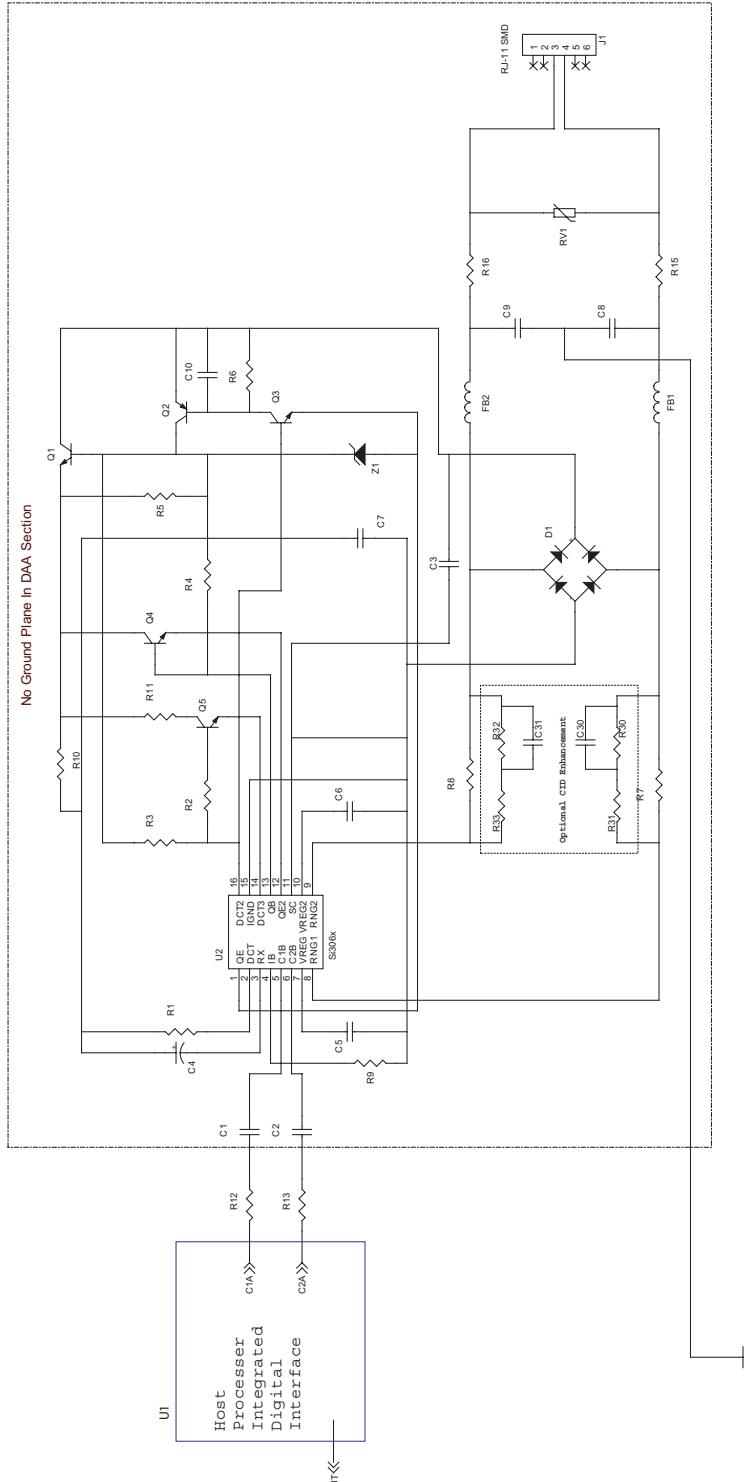

Figure 2. Typical Application Circuit for the Si306x Line-side device
7. DR_{CID} = 20 x log (RMS V_{CID}/RMS V_{IN}) + 20 x log (RMS V_{IN}/RMS noise). V_{CID} is the 1.5 V full-scale level for the typical application circuit in Figure 2.